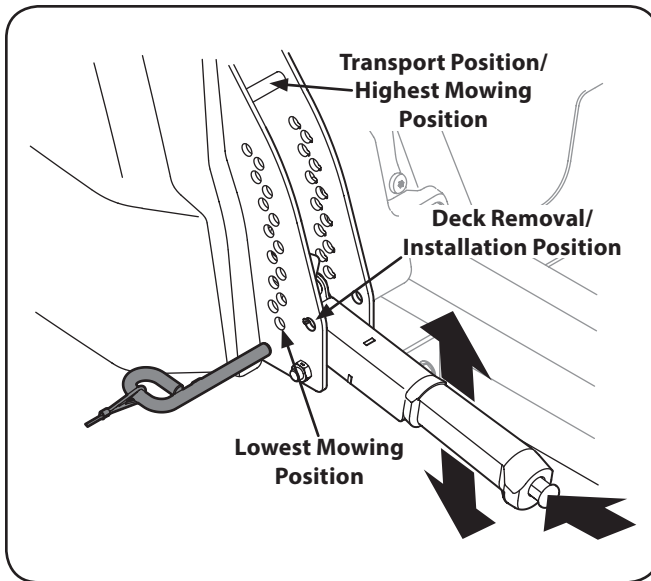

Figure 7-3
- a. Using the deck lift handle, raise the deck to the position that provides the most horizontal run of the belt between the deck idler pulleys and the PTO pulley on the bottom of the engine. See Figure 7-3.
- d. Lower the deck into the deck removal/installation position  using the deck lift handle. See Figure 7-3.
- e. Lower the deck into the deck removal/installation position  using the deck lift handle. See Figure 7-3.